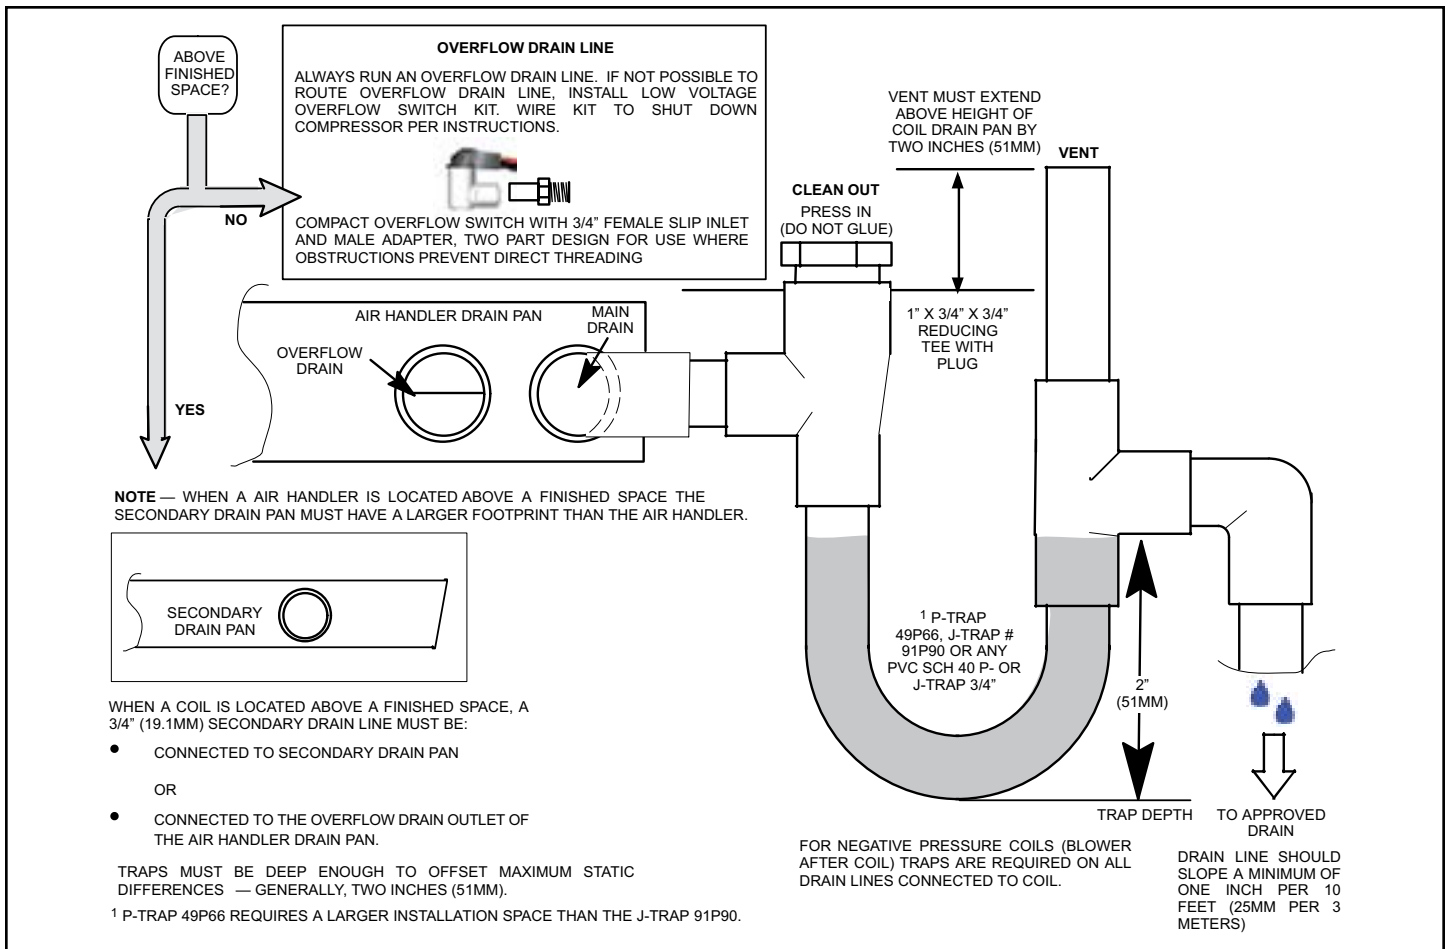

Figure 15. Typical Main and Overflow Drain
6. Install a 2" trap in the main (primary) drain lines as close to the unit as practical (see Figure 15). Make sure the top of the trap is below the connection to the drain pan to allow complete drainage of the pan.
NOTE: Horizontal runs must have an anti-siphon air vent (standpipe) installed ahead of the horizontal run. See Figure 15. An extremely long horizontal run may require an oversized drain line to eliminate air traps.